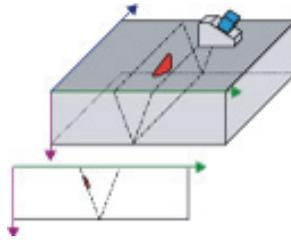

Figure 4-18 End (D-scan) view
- **Show End (D) View** ()
The End (D) view is defined by the ultrasound axis (represented by the vertical axis in RayTracing view) and the index axis (represented by the horizontal axis). The End (D) view provides a D-scan view (see Figure 4-18 on page 47).